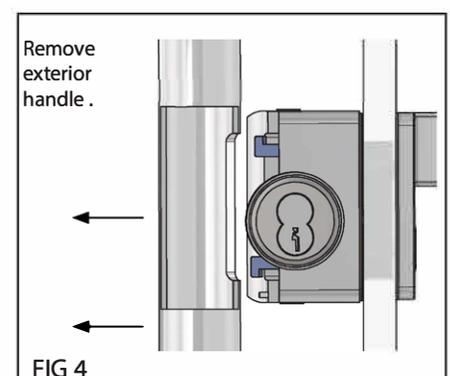

FIG 4
STEP 4: Carefully remove the Exterior Handle once any remaining connections have been eliminated (Figure 4).